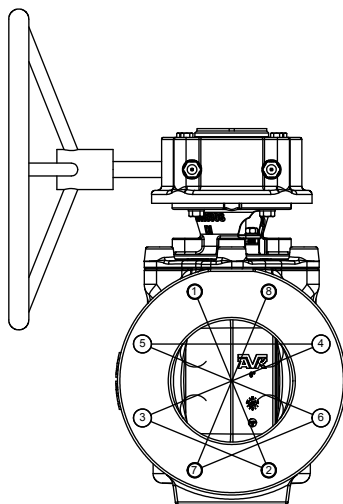

Fig. 2
5. Tighten the bolts and nuts in the crossover method shown in Fig. 2, to load the pipe and valve evenly and prevent stress on the joints.
4. Tighten the flange bolts or studs in a sequence according to Figure 2.
3. Tighten the flange bolts or studs in a sequence according to Figure 2.